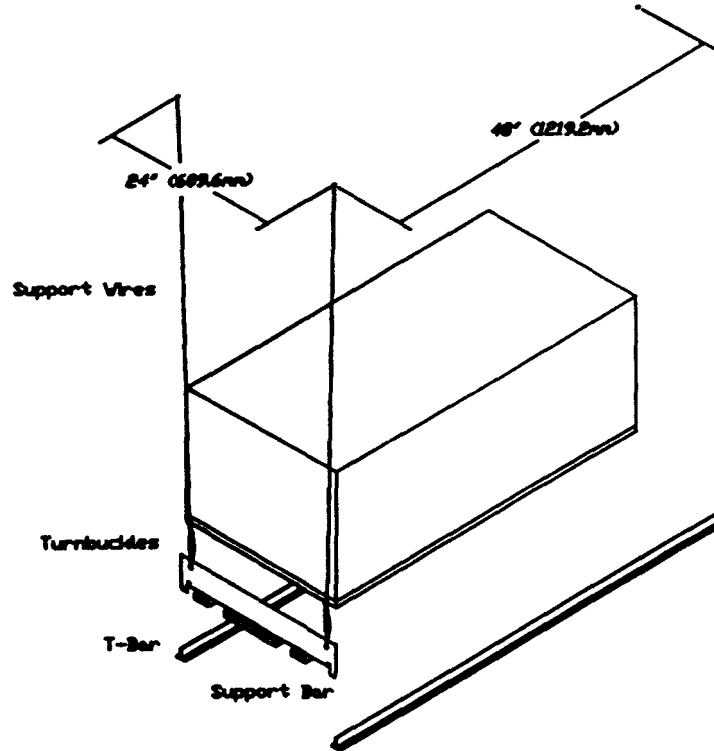

FIGURE 1
1. Attach four galvanized steel support wires to the true ceiling at the location shown in Fig. 1. Twist each wire at least four times to provide safe support for the air cleaner. The free wire end should extend six inches or more below the bottom of the T-bars.
2. Place the two hanger brackets on both ends of the T-bar with the "J" shaped portion of the hanger brackets facing towards the inside of the opening. See Fig. 1.
4. Hook the tumbuckles to the hanger brackets and then secure the support wires to the eyes of the tumbuckles. Twist the wire at least four times. See Fig. 1.